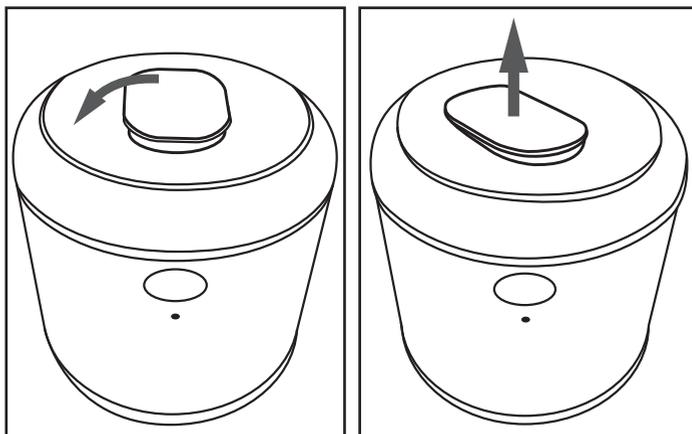

Fig. 2
- 4) Open the filler opening cap 10 by turning it slightly anticlockwise and removing it (see Fig. 2):